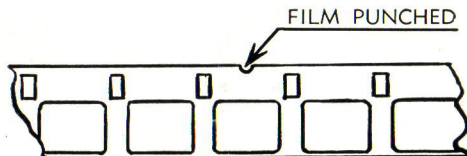

Fig. 5
5. Operate your Projector in the normal manner (see page 7 of your Instruction Book). From your screen select the portion of your Film you wish to cut out. When you have made your selection stop the Projector. Feed your Film through the Viewer by hand until you come to the First Frame of the Film you wish to cut out. The Viewer will magnify the Frame. Push down the Film Punch (Fig. 4). It will make a punch mark on Film (as shown in Fig. 5). Continue feeding your film by hand through Viewer until you come to Last Frame of the Film you wish to cut out. Punch this Frame in the same manner as the First Frame.